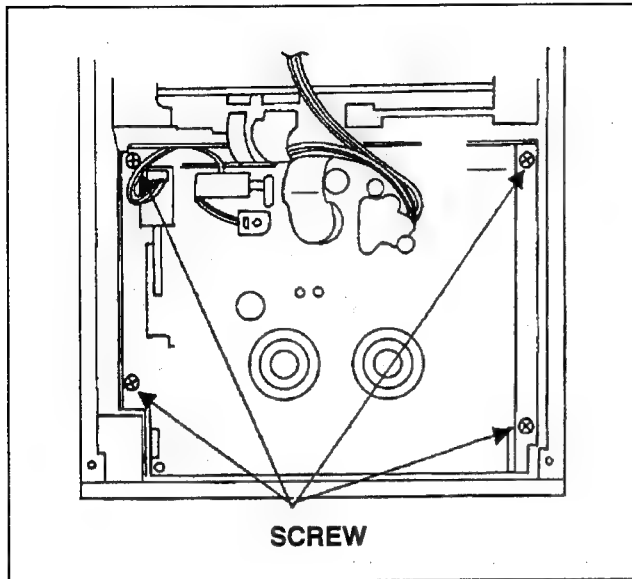

Fig. 6-1-4
7. Unscrew the 4 screws on the Plate, which plate installed Mech Chassis Unit. And remove the Mech Chassis Unit with Plate from VTR as shown in Figure 6-1-4.